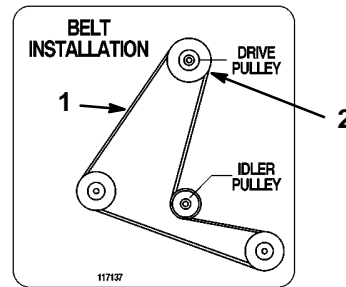

**Figure 7**
8. Install adjustable link between front bracket and lift arm with (2) 3/8" washers, a 2-9/16" hairpin cotter, and a 1" cotter pin (Fig. 7).